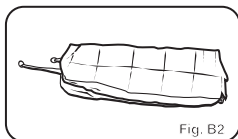

Fig. B2
- 12.Fold the inflatable slide in half, making sure that the release tube is parallel to the fold. Fold it in half 2 more times, parallel to the first fold.(Fig B2-B3)